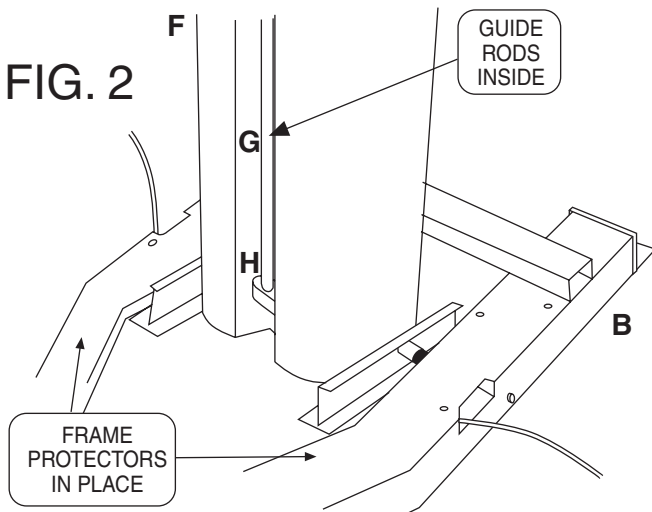

FIG. 2
5. In preparation for attaching the stack column (F) to the main frame (B), make sure that the rear of the main frame is 2 to 3 feet from the wall. The stack column should have the guide rods (G) in place with the rubber bumpers (H) at the bottom and the screws up. **IMPORTANT:** The guide rods need to be in now because ceiling height might make later insertion difficult or impossible. **FIG. 2.**
6. Stand the stack column (F) up forward of its final position. The rockers at its base go under the spring loaded positioning pins that protrude horizontally above the felt. Place the rear of the rockers under these pins and work the column back carefully so as not to scratch the frame. Leave the factory installed frame protectors in place throughout this step. **FIG. 2.** The positioning pins have to rise and snap into the notches provided at the base of the stack column (F). Because the springs holding down the pins are stiff, a fair amount of force is required. For the last two inches, tilting the stack column (F) toward the press arm support (A) helps by making the ramps less steep.